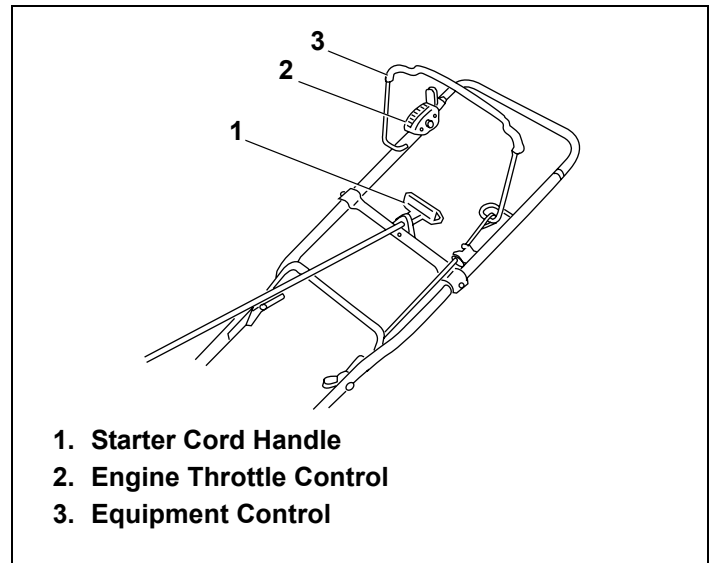

Figure 23. Typical Engine Controls
2. Move engine throttle control to "CHOKE" or "START" position, if present (see equipment manufacturer's instructions). See Figures 23 thru 25.
4. Operate equipment control to release engine brake or clutch, if present (see equipment manufacturer's instructions). See Figure 23.
5. Grasp starter cord handle. See Figure 23.